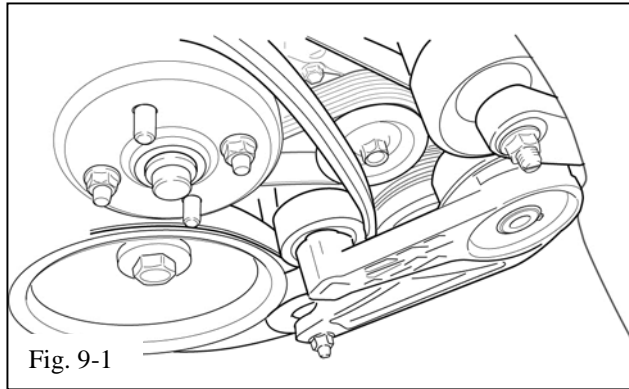
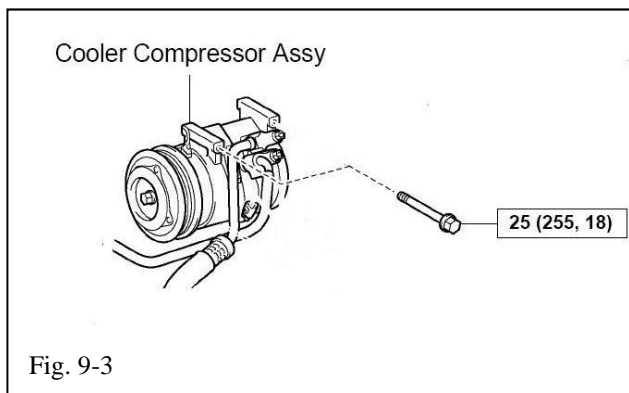

Fig. 9-1
Fig. 9-3
- (a) Remove the 2 M10 nuts and then install the belt tensioner assembly (C1) onto the two double ended studs previously installed (Figs. 9-1 & 9-2).
- (1) Make sure both sides of the supercharger drive belt are free between the tensioner pulley and the upper idler pulley.
- (2) Reinstall the two M10 nuts (C7) finger tight.
- (b) Remove the top/forward AC compressor mounting bolt (Fig. 9-3).
- (g) Be sure the supercharger drive belt is on the bottom of the tensioner pulley (Fig. 9-1).